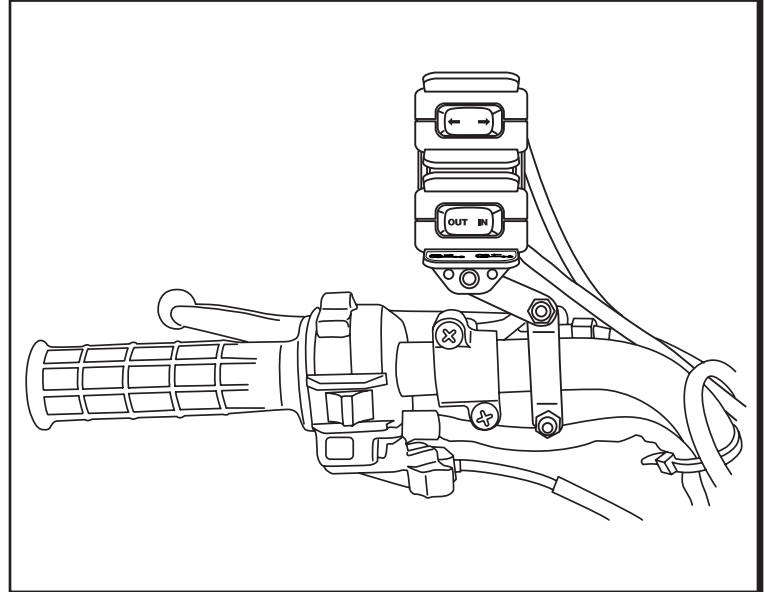

Figure 14
17. The completed Pro-Pivot switch mounting is shown in Figure 14.